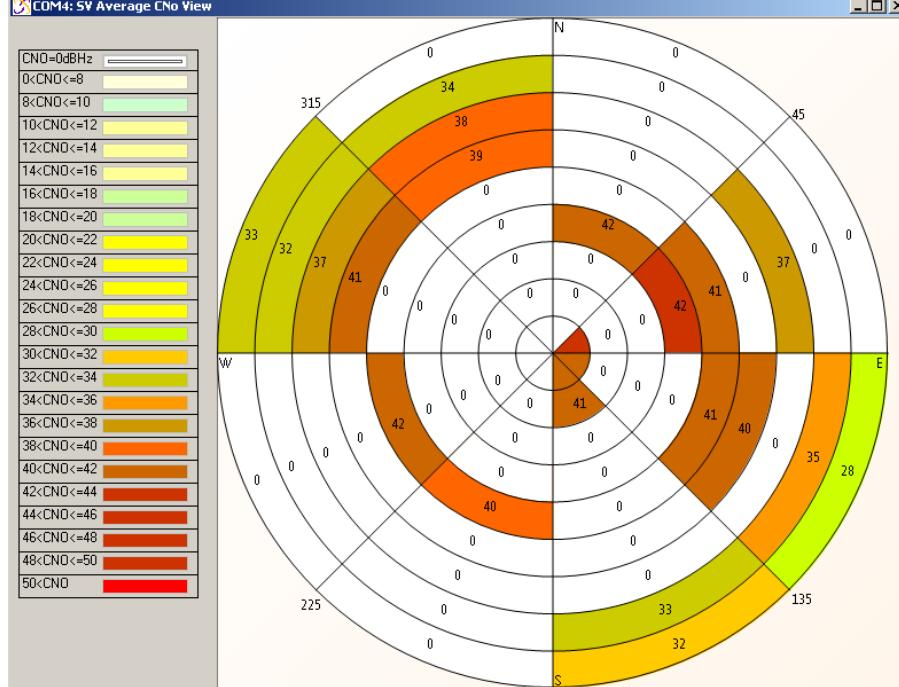

Figure 7.34: SV Average CNo View
- Select **Receiver / Plot Data / SV Average CNo** to display the **SV Average CNo View**, see Figure 7.34.